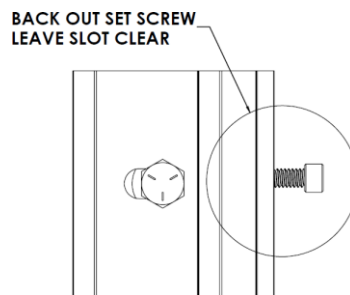

Figure 268: **Loosen the Ceiling Bracket Set Screw So No Threads are Visible in the Bracket Channel**
- This makes mounting the track to the bracket easier (Figure 268).